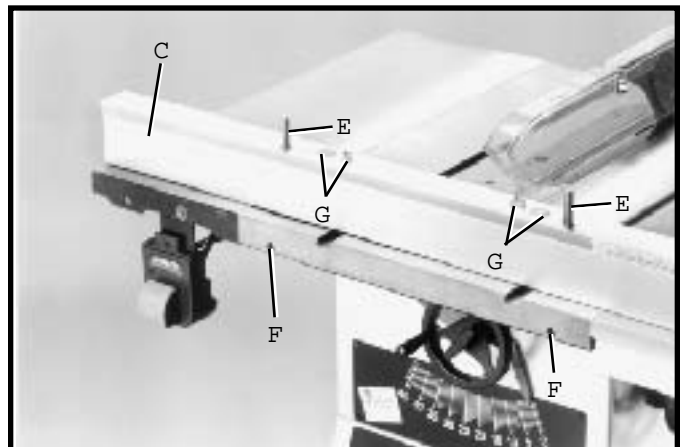

Fig. 58
5. Assemble the guide rail to the saw table by inserting two studs (E) Fig. 58, into the two matching holes (F) in the front of the saw table. Fasten guide rail (C) Fig. 58, to the saw table with two flat washers and hex nuts (G).